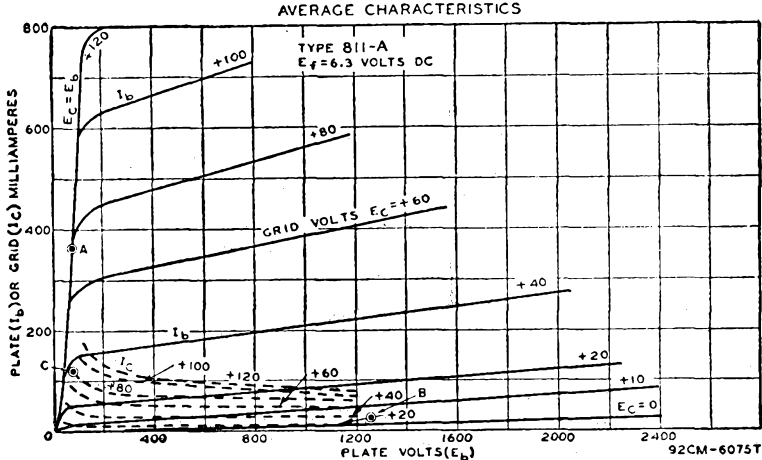

Fig. 48
Calculate operating values for the RCA-811A for linear rf power amplifier service under ICAS conditions. Refer to Fig. 48 for curve values.
- (1) Select  $E_b = 1250$  volts.
- (2) Calculate:  $I_{b_e} = 0.9 P_{ine}/E_b = 0.9 \times 165/1250 = 0.12$  ampere.
- (3) Calculate:  $I_{bmax} = 3 I_{b_e} = 3 \times 0.12 = 0.36$  ampere.
- (4) Calculate:  $I_b = I_{b_e}/1.4 = 0.12/1.4 = 0.09$  ampere.
- (5) On Fig. 48 locate  $I_{bmax} = 0.36$  ampere at Point A. Read  $E_{cmax} = 80$  volts;  $E_{bmin} = 80$  volts.
- (6) Calculate  $I_{b_0} = I_{b_e}/5 = 0.12/5 = 0.024$  ampere.
- (7)  $P_{ine} = E_b I_{b_e} = 1250 \times 0.120 = 150$  watts.
- (8) Calculate:  $PEP = (I_{bmax}/4)(E_b - E_{bmin}) = (0.36/4)(1250 - 80) = 0.09(1170) = 105$  watts.
- (9)  $P_p = 0.7 P_{ine} - 0.5 PEP = (0.7) 150 - (0.5) 105 = 52.5$  watts.
- (10) Record:  $E_g = E_{cmax} = 80$  volts.
- (11) On Fig. 48 locate  $I_{cmax} = 0.12$  ampere at Point C.
- (12) Calculate:  $I_{c_e} = I_{cmax}/3 = 0.12/3 = 0.04$  ampere.
- (13) Calculate:  $I_c = I_{c_e}/1.4 = 0.04/1.4 = 0.028$  ampere.
- (14) Calculate:  $P_d = E_g (I_{cmax}/4) = 80(0.12/4) = 2.4$  watts.